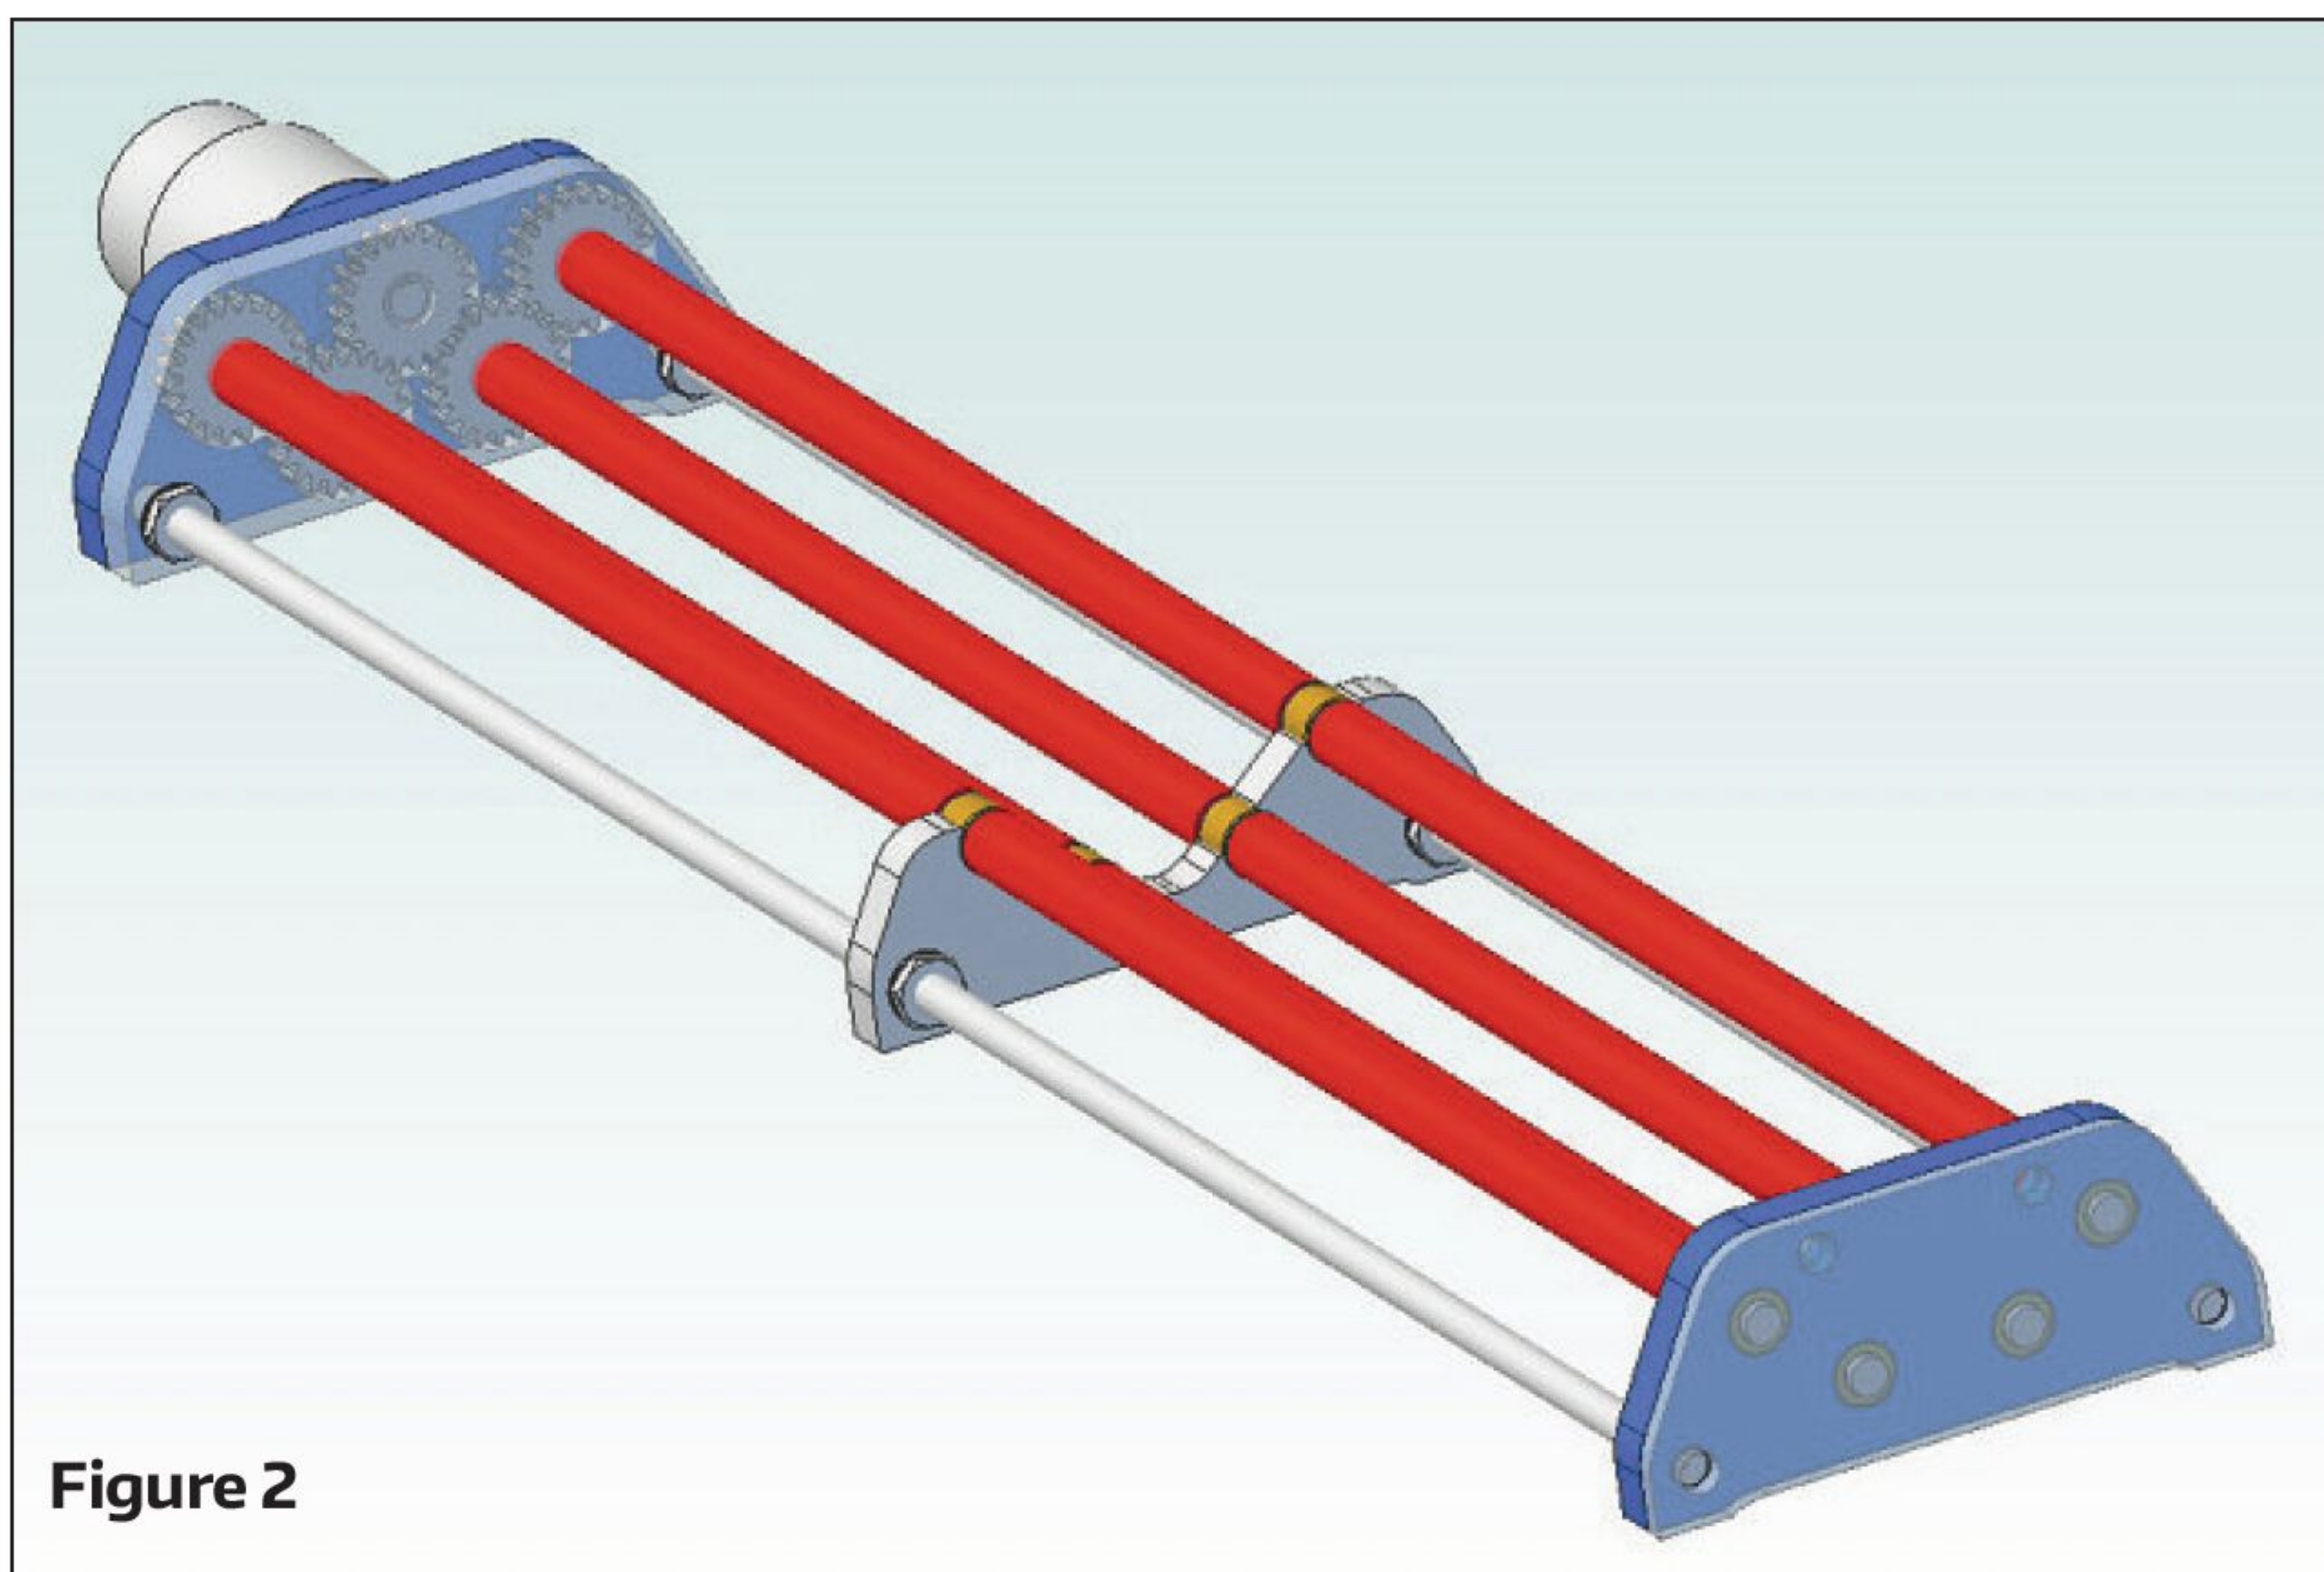

Figure 2
**Figure 2** is how that looks, with the Silicone tube covered rollers and centre bearing support, with the gear cover made transparent to show the arrangement. I haven't bothered meshing the gears correctly on the 3D model.